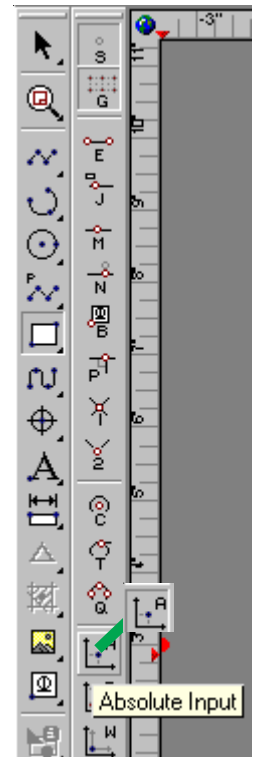

Figure 16
3. Select the **absolute input button** in the snap menu as shown in **figure 16**.